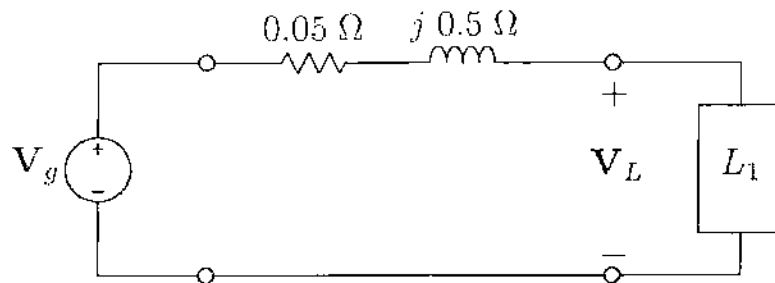

Figure 1.1
Question 1. A 1500 KW industrial facility operates at a lagging power factor (PF) of 0.75 with input voltage V_L at the load terminal L1 equal to 2400 V (RMS). The load is fed from a source through a transmission line having an impedance of $0.05 + j0.5 \Omega$ as shown in Figure 1.1.